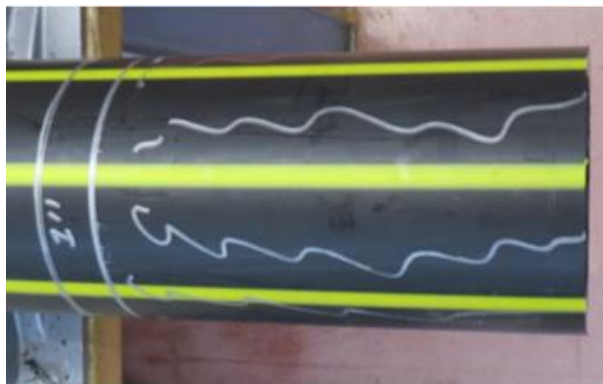

Figure 1.
- G) **Mark the peeling zone on the pipe** using a silver Sharpie (e.g. MSC # 42258343) or Friatec marking pen (Contact Development Lab). Do not use keel, lumber crayons, or paint markers for marking pipe. Measure and mark the pipe approximately one inch past the coupling stab depth. Before peeling or scraping the pipe surface, make witness marks on the pipe surface with a Sharpie in the area to be peeled. Avoid using paint markers to make witness marks, as the paint can leave residue and interfere with the surface preparation. See Figure 1 for details.